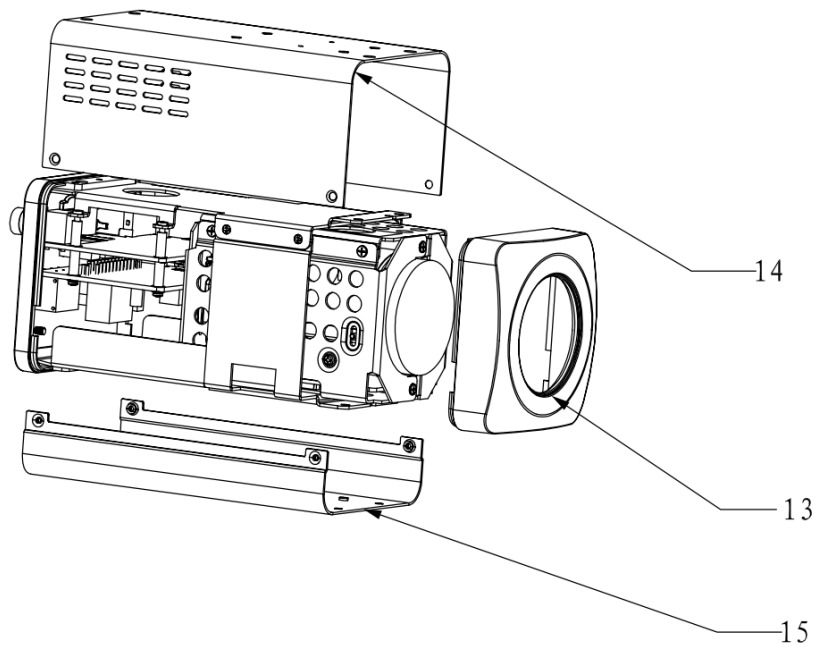

Figure 3-6
b) Refer to Figure 3-6.to open the cover.